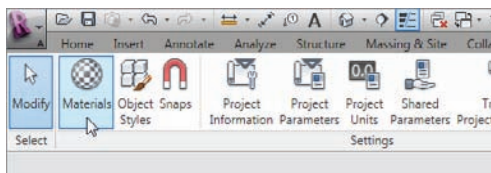

FIGURE 9.70 Choosing the Materials button on the Manage tab
1. On the Manage tab, click the Materials button, as shown in Figure 9.70.